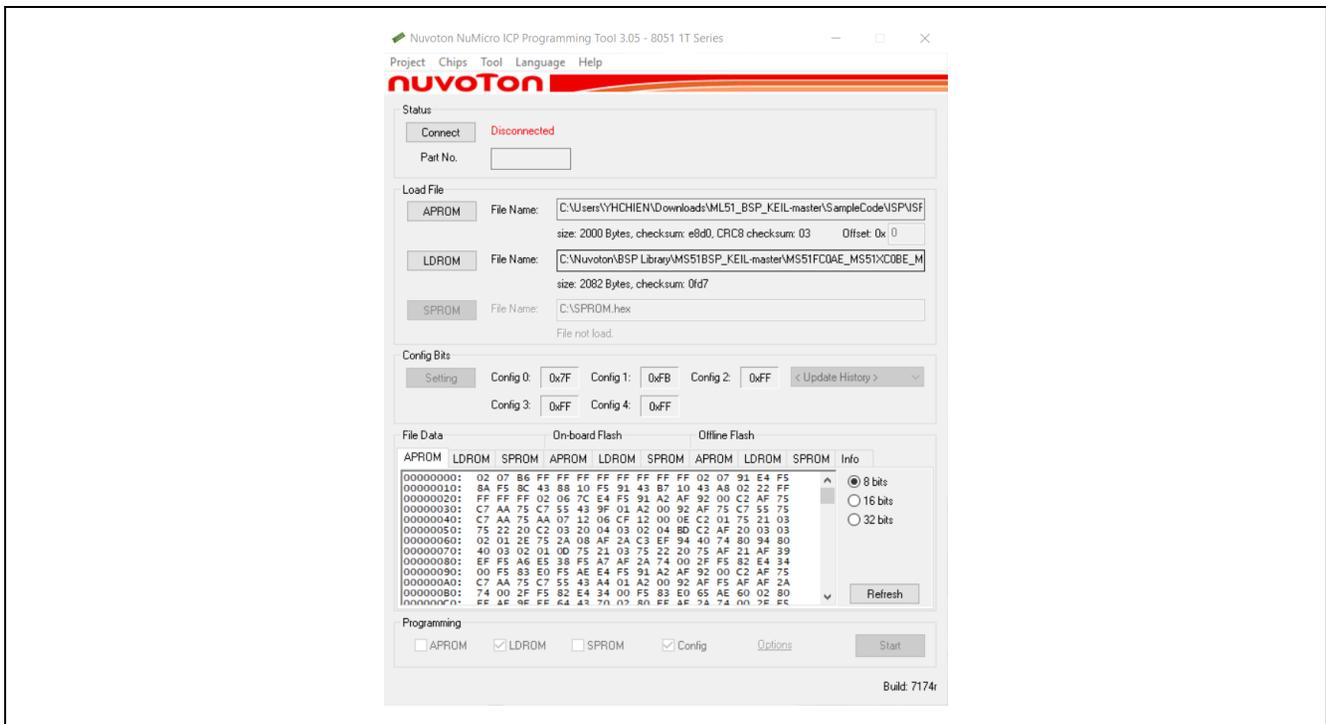

Figure 4-3 ICP Tool Main Window
(3) In the ICP Tool main window, the connection status is shown as “Disconnected” since the ICP tool has not been connected with the Nu-Link2-Pro, as shown in Figure 4-3.